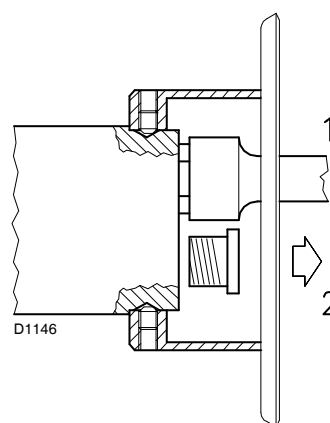

Fig. 12
- Fit two nozzles with the box spanner (16 mm) 1)(Fig. 12), after having removed the plastic plugs 2).